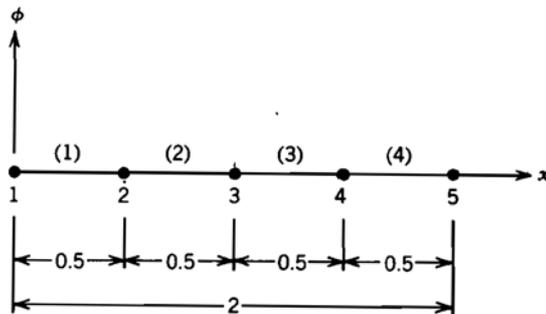

Figure 5
2. Develop and solve the system of finite element equations for an approximate solution to the differential equation $d^2\phi/dx^2+Q=0$ using the value for Q and the boundary conditions given in the following table. Divide the interval $[0,2]$ into four elements, each with a length of 0.5 cm. The nodes and elements are numbered as shown in Figure 5.